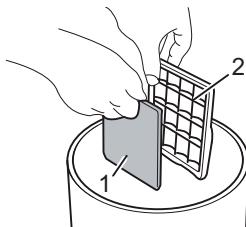

Fig. 25
3. Remove the motor protection filter (Fig. 25/1) from the filter holder (Fig. 25/2) over a dustbin.